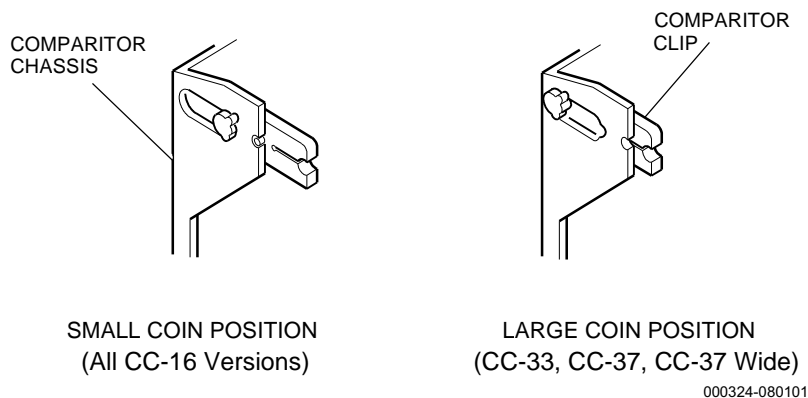

Figure 6-9. Comparitor Clip Positions
1. Install the comparitor clips (if removed) from the inside of the coin chassis by inserting each clip into a clip slot and rotating the clip 1/4 turn (90 degrees) until the tab on the clip snaps into the notch on the chassis (see Figure 6-9).
4. See Figure 6-9 and adjust the coin comparator clips located on the sides of the coin chassis. Push the end of the clip slightly inward and rotate the clip 1/4 turn (90 degrees) to unlock. Move each clip forward or back to the correct position and rotate each clip again 1/4 turn (90 degrees) to lock into place.